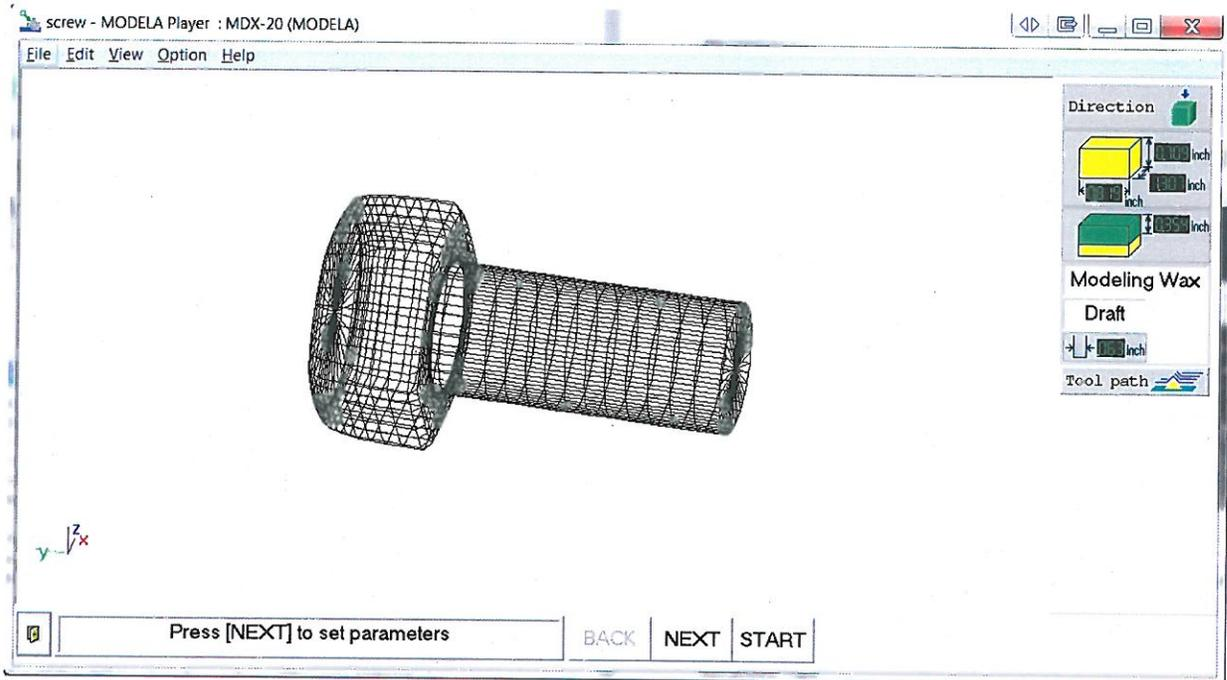

Figure 7: Main View of Modela Player
- Go to **File–Open**, and then select your file. .STL, .DXF, or .MDJ files can be made using any 3D CAD software package (Google Sketchup, Solidworks, AutoCAD, etc.) (Figure 7).